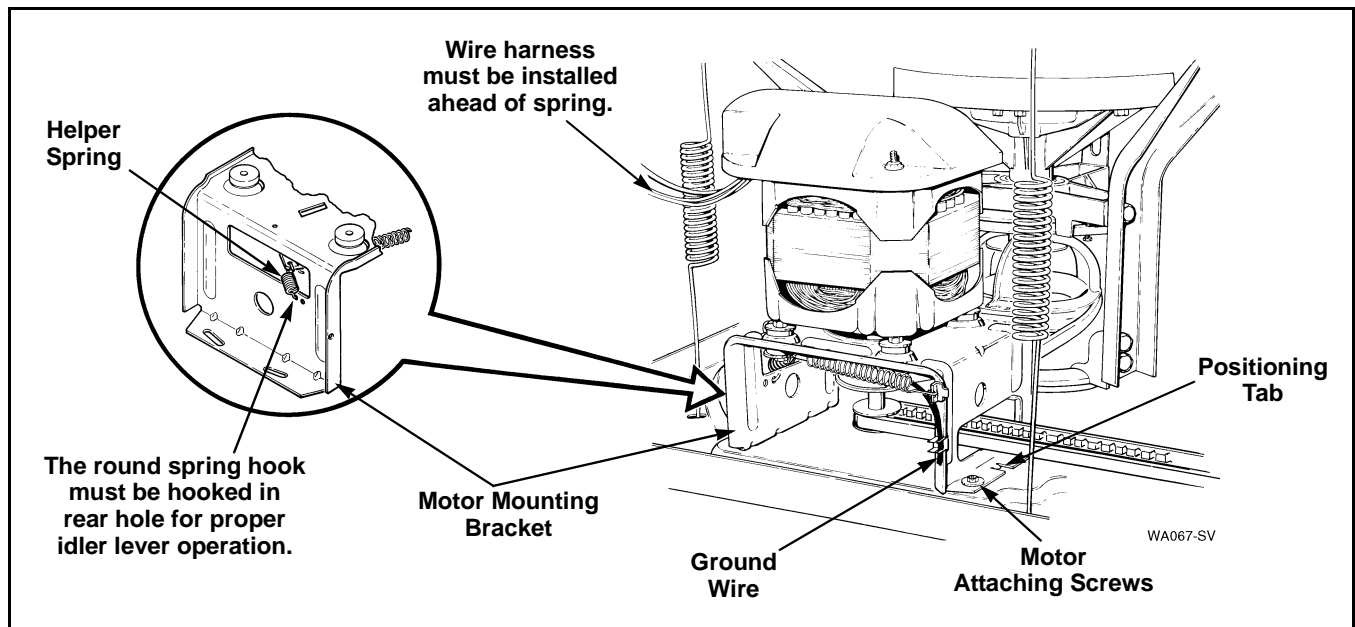

Figure 24
- Remove screw holding ground wire to washer base. Refer to *Figure 24*.
- Remove four screws holding motor and mounting bracket to washer base. Refer to *Figure 24*. Then lift complete assembly out of washer.